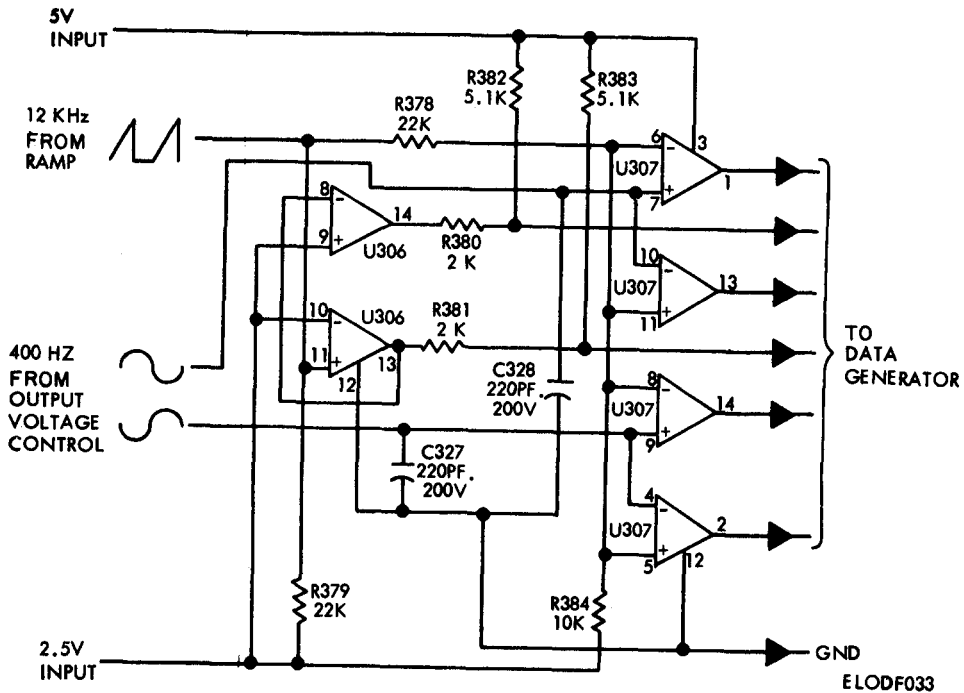

Figure 3-18. Square wave generator and modulator-B phase.
d. The square wave generator and modulator (fig. 3-18) compare ramp signal with sine wave and modulator output pulse length in accordance with relative amplitude of these signals. Figure 3-18 shows square wave generator and modulator, B phase and C phase (board A3). A similar circuit for A phase modulator (board A2) is shown in figure FO-3.